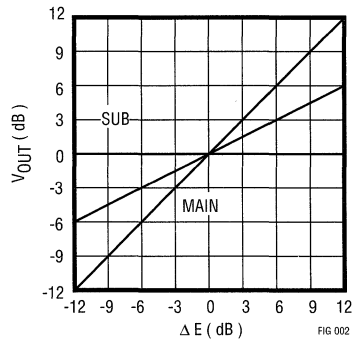

**Figure 1: Audio multiplex signal restorer input signal level vs. channel separation**
This function is shown in Figure 1 (the solid line). It is clear from Formula 1 and Figure 1 that channel separation deteriorates quickly with a variation in the input signal level. The channel separation correction circuit protects against this deterioration. This circuit controls the level of the signal (the L-R signal and sub-audio signal) that recovered the
sub-channel (FM) signal being input. With this circuit, the deterioration of channel separation due to input signal level variation is sharply reduced. The dashed line in Figure 1 shows the improvement.